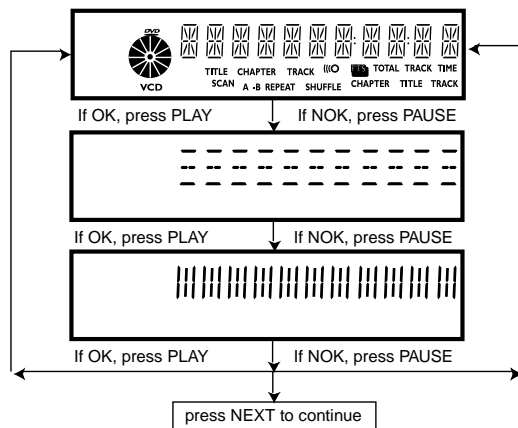

Figure 1
1. Push left end of the lever under the tray toward the right by using screwdriver, move the tray by pulling it forward. (Fig. 1)